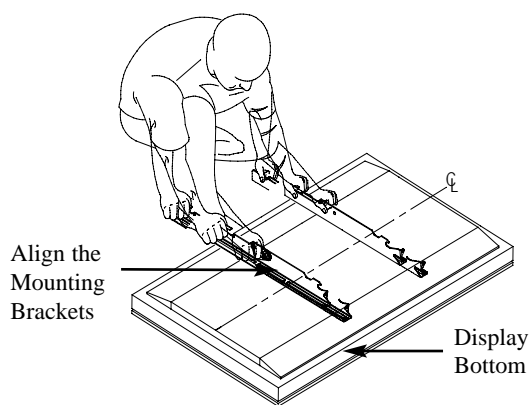

Figure 4
4. Match the center of viewing guide with the center line you marked in step 1 (Figure 4).